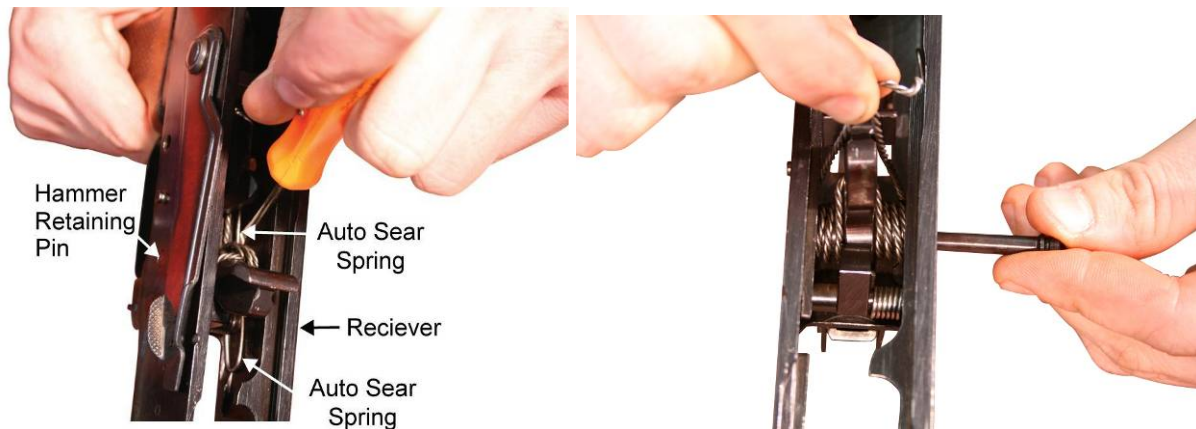

Figure 22. Pushing the Long Leg of Auto Sear Spring out of the Groove in the Hammer Retaining Pin and Removing the Hammer Retaining Pin.
- i. Using a punch or flat head screwdriver, apply downward pressure on the auto sear spring to push the long leg of the auto sear spring out of the retaining groove in the hammer retaining pin. Using a punch, push the hammer pin from the right side of the receiver and remove the pin from the left side of the receiver. Refer to Figure 22.